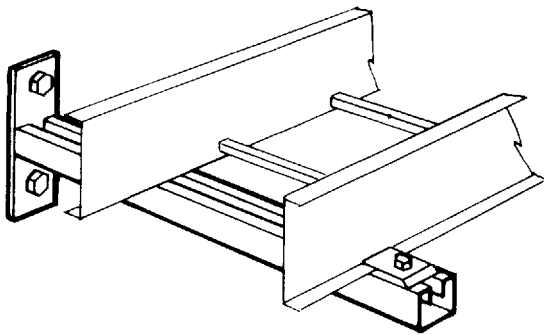

Figure 4.7A
4.2.2 Wall and Cantilever Brackets (See Figures 4.7A through 4.7E.)